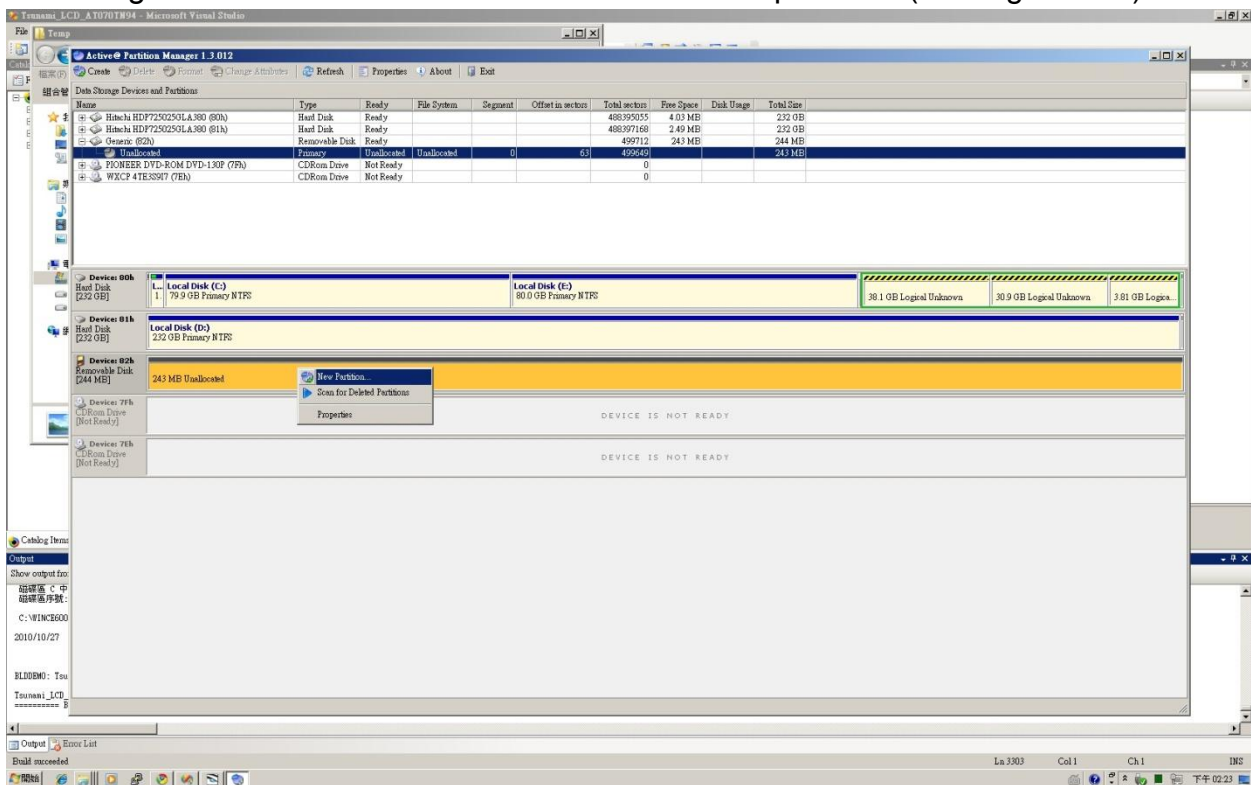

Figure 104
- Right click on removable disk and choose “new partition” (see Figure 104)